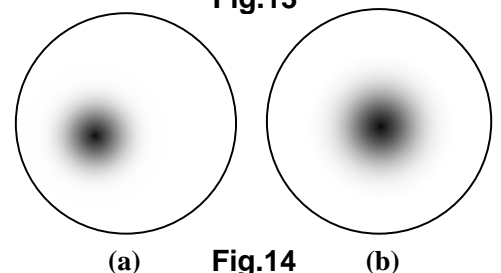

Fig.14
- Turn the condenser focus knob to slowly lower and raise the condenser till a dark spot showed in the viewing field as shown in **Fig. 14 (a)**.
- Turn the condenser translational centering screws to move the dark spot to the center as shown in **Fig. 14 (b)**.